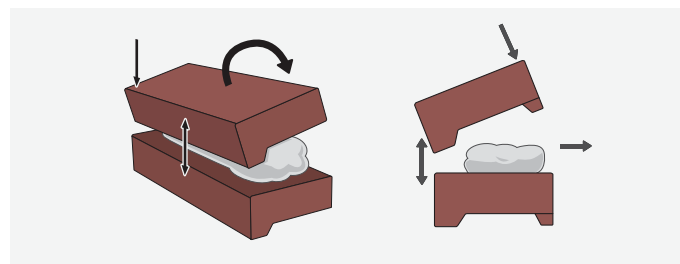

Figure 2: pressing down
- Position the brick by pressing the front side down and then carefully tilting the brick backwards (figure 2)